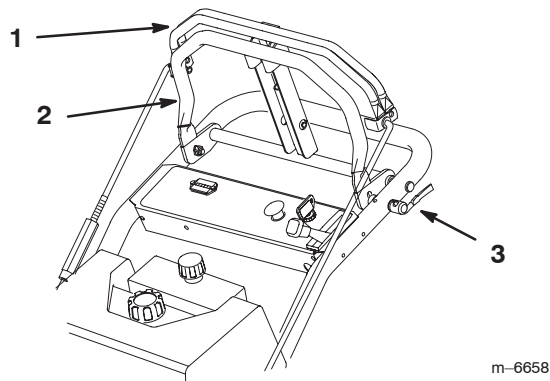

Figure 12
1. Place the quick release levers in the unlock position (Fig. 12).
2. Move the reference bar forward or backward to set the desired forward speed. The pointer indicates approximate ground speed (Fig. 12). When the bar is in the full forward position the ground speed is approximately 6 mph. When the reference bar is in the middle position the ground speed is approximately 3 mph.
3. Place the quick release levers in the lock position (Fig. 12).
1. To go forward, slowly press on the upper control bar against the reference bar (Fig. 12).
2. To go straight, apply equal pressure to both ends of the upper control bar (Fig. 12).
3. To turn, release pressure on the upper control bar side toward the direction you want to turn (Fig. 12).
4. Adjust reference bar to maintain a comfortable pre-set ground speed (Fig. 12).
5. To stop, release the upper control bar to stop both wheels (Fig. 12).
1. To go backward, slowly pull the control bar rearward (Fig. 12).
3. To turn, release pressure on the upper control bar side away from the direction you want to turn (Fig. 12).
4. To stop, release the upper control bar to stop both wheels (Fig. 12).
1. To stop, release the upper control bar to stop both wheels (Fig. 12).